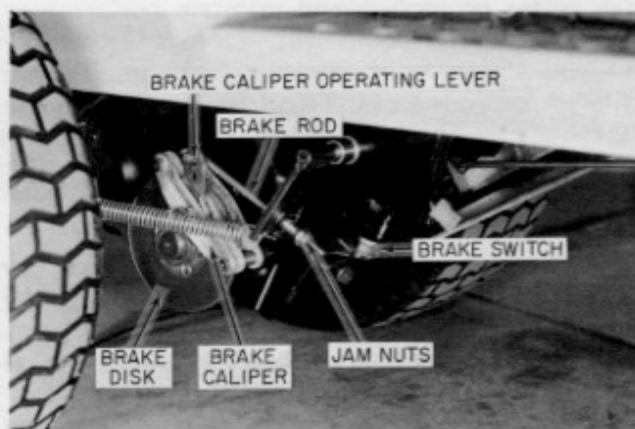

Figure 18. Brake Adjustment
A fully depressed brake pedal or an engaged parking brake should prevent the tractor from rolling on average hillsides. If the brake does not perform satisfactorily, the following adjustment may be made: (See Figure 18.)
4. Identify the 5-inch brake rod attached to the operating lever of the brake caliper. See Figure 18.